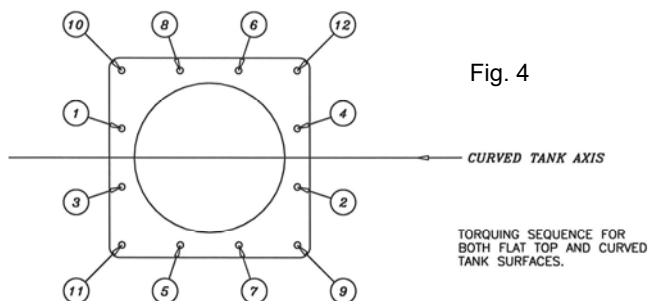

Fig. 4
13. Insert and tighten all of the plate bolts to 40—60 in. lbs. (4.5—6.8 nm) of torque, or until all the bolts are snug to the top of the plate surface. Then tighten all the bolts to 78—95 in. lbs. (8.8—10.2 nm). Then recheck the bolts in the sequence indicated in Fig. 4 for 78—95 in. lbs. (8.8—10.2 nm).